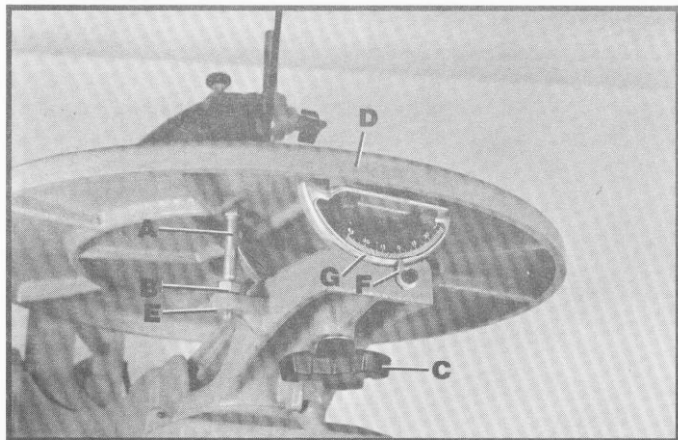

Fig. 25
A table stop (A) Fig. 25, is provided to accurately position the table at 90 degrees with the saw table. Thread nut (B) on table stop (A), loosen lock knob (C) and tilt table (D). Insert table stop (A) Fig. 25, into hole in casting (E) and lower table (D) until it contacts top of table stop (A) as shown.
To adjust, turn nut (B) Fig. 25, right or left as needed until table is 90 degrees with the saw blade. Tighten lock knob (C) and adjust indicator (F) until it points to zero on angle-of-tilt scale (G).